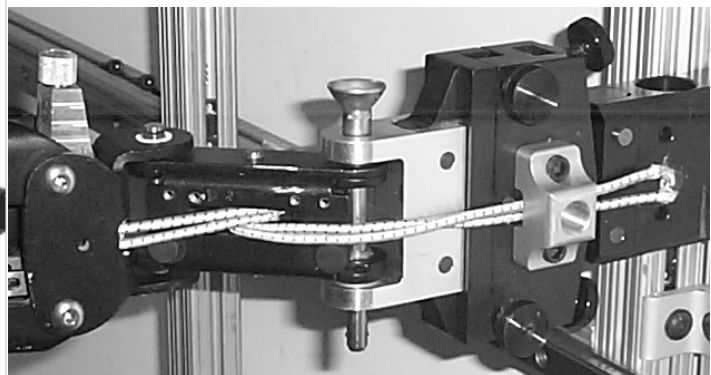

Figure 10 Shoulder bungee in combo anchor
- a. Use a $\frac{3}{32}$ -inch Allen wrench to loosen the set screws in the ends of the cord cinch (see Figure 10).